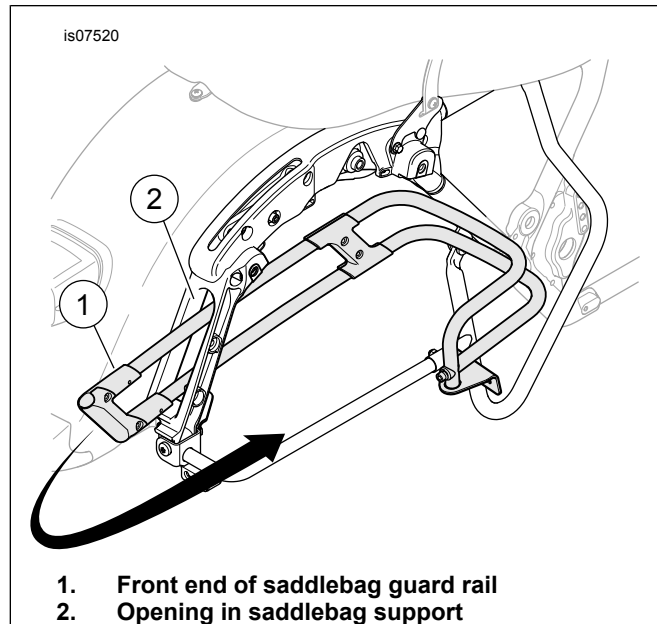
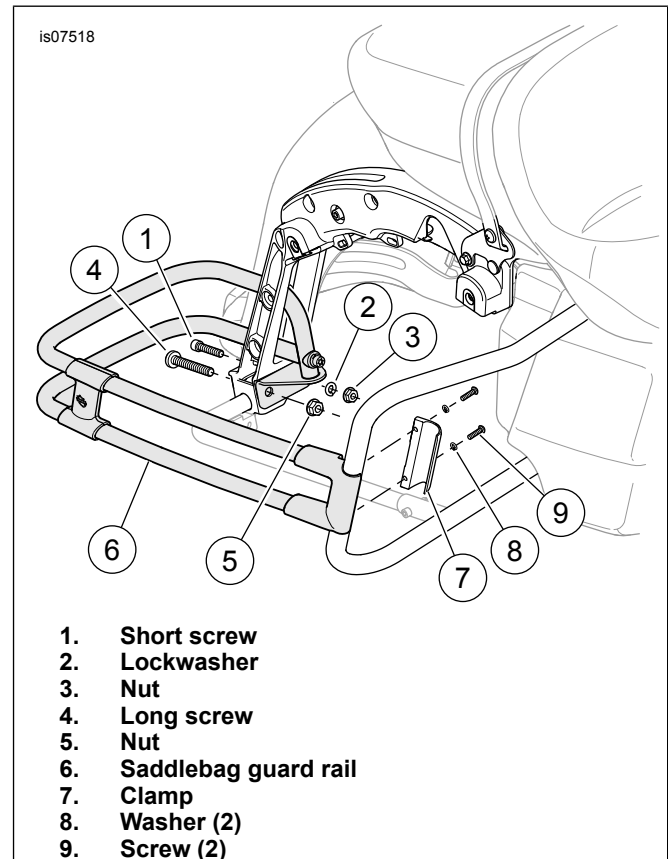

Figure 1. Installation Routing
Figure 2. Saddlebag Guard Rail
1. See Figure 2. Remove screw (1) and nut (3). Discard hardware.
2. Remove screw (4) and nut (5). Discard nut.
3. See Figure 1. From front to rear, route the front end of the guard rail (1) through the opening in saddlebag support (2). Then rotate the front end of the guard rail around to the proper orientation.
- b. Secure with clamp (7), screws (9) and washers (8).
4. See Figure 2. Install guard rail to saddlebag support.
- a. Install guard rail to saddlebag support. Secure with short screw (1), washer (2) and nut (3). Leave fasteners loose.
- b. Install original equipment (OE) long screw (4) and nut (5). Leave fasteners loose.
5. Mount the front of the guard rail (6) to the saddlebag support rail.
6. Tighten screw (4) and nut (5) to 40.7–50.2 N·m (30–37 ft-lbs).
7. Tighten screw (1) and nut (3) to 20.3–27.1 N·m (15–20 ft-lbs).